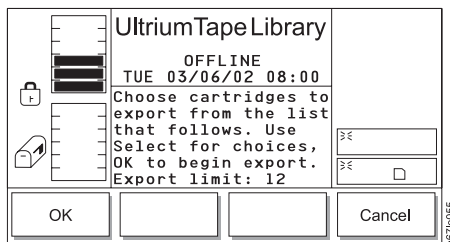

Figure 4-93. Export Dialog
3. Press the button below the **Export** softkey. The Export Dialog displays a message that describes the export procedure (see Figure 4-93).